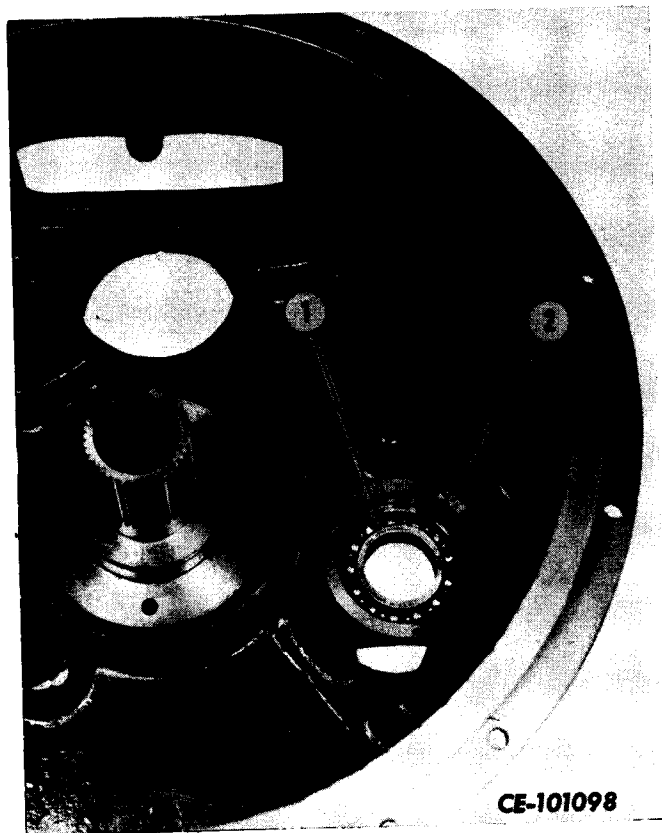

Figure 3-36
To remove bearings, tap inner bearing out of rear of housing and outer bearing (1, Fig. 3-36) out toward front of housing. Do not remove snap ring (2) unless it is chipped, cracked or broken.